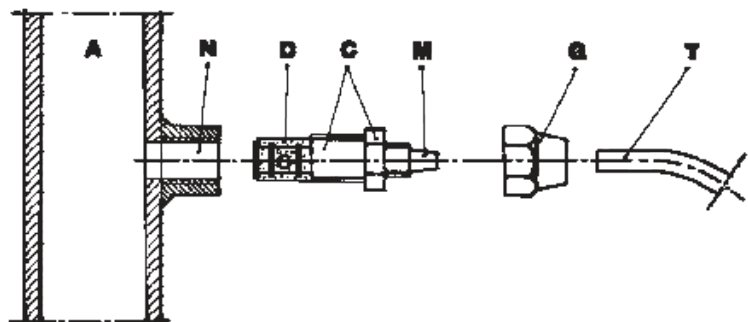

Fig. 9
- g. - Select the most appropriate injection point on a pipe of the plant to be treated and there fit a 3/8" female steel gas thread connector (similar to BSPm). This connector is not supplied with the pump. Screw the injection valve to the gas connector, inserting a gasket as shown in Fig. 9. Then connect the discharge hose to the conical connector on the injection valve and fix it with the supplied tube nut G. The injection valve also acts as no return valve by means of a cylinder sleeve (elastomer, standard supplied in Viton®).
#### DIAGRAM Fig. 9